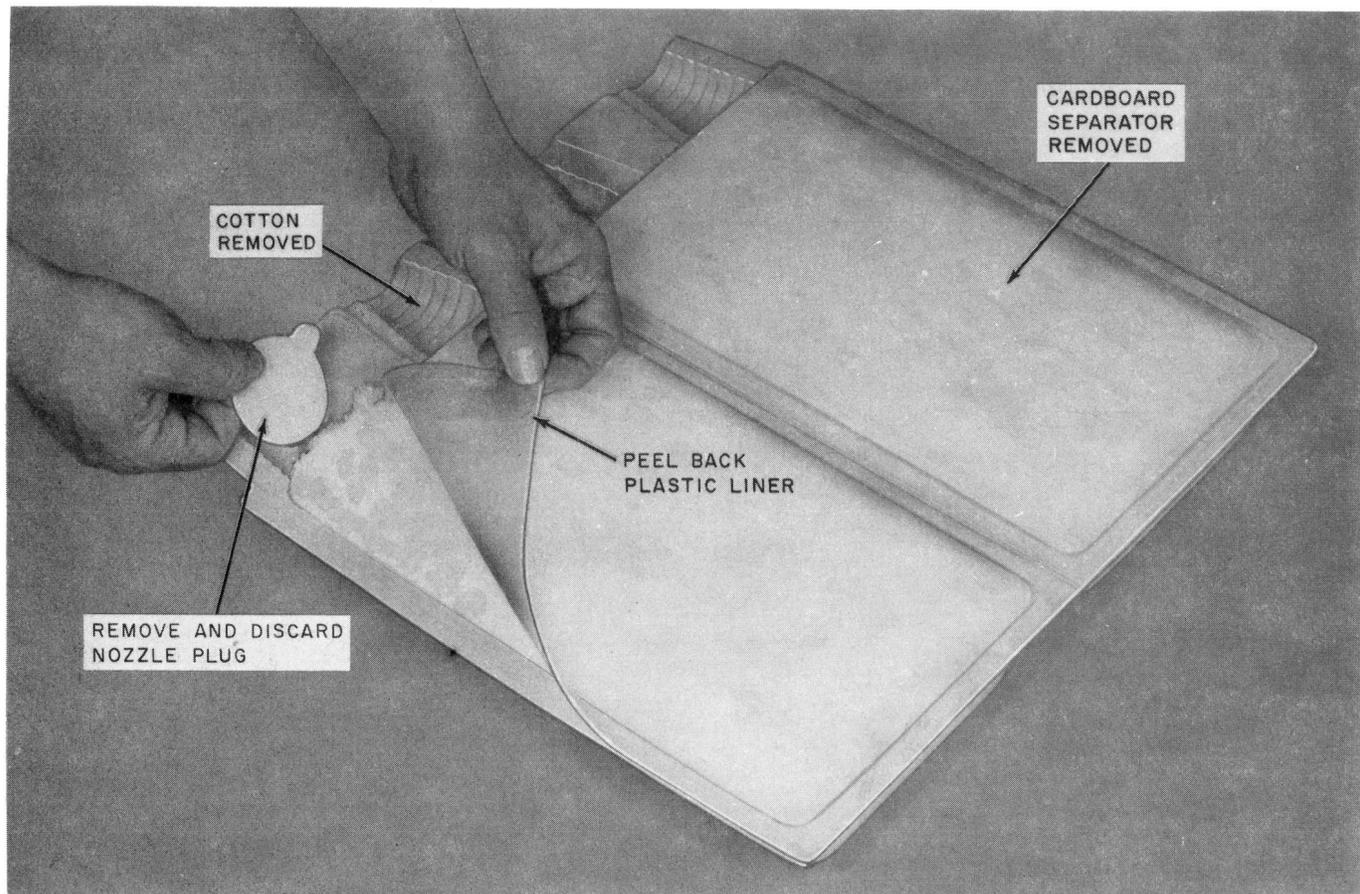

Fig. 25—Preparation of Closure Shell for Cable Placement
4.10 Remove and discard nozzle plugs, cotton and cardboard separator, then peel back and remove plastic liner (Fig. 25).